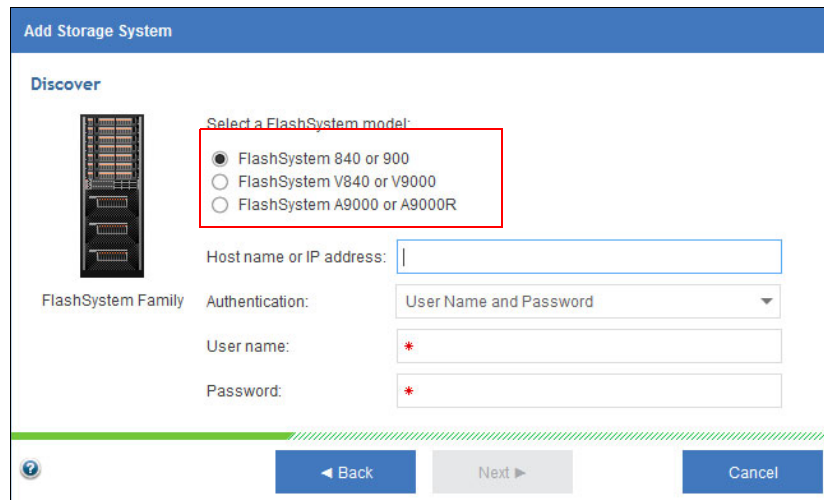

Figure 2-2 Select Flash System model window
2. After selecting **FlashSystem Family**, select the appropriate radio button for the corresponding FlashSystem device that you want to add, as shown in Figure 2-2.